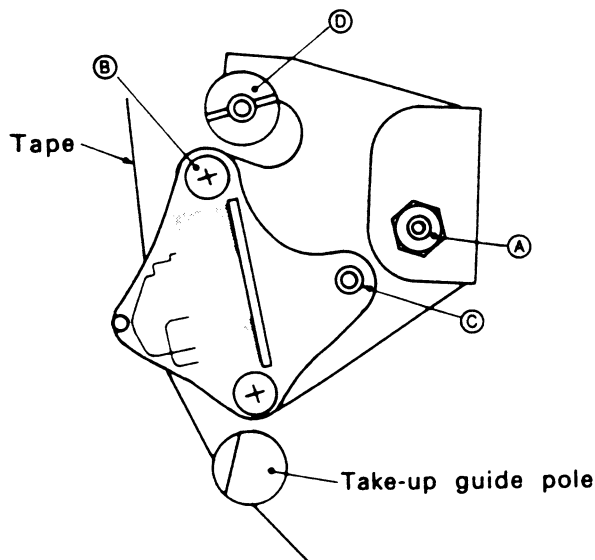

Fig. 5-2
- Turn screw © (Fig.5-2) and adjust for smooth transport at the take-up guide pole.